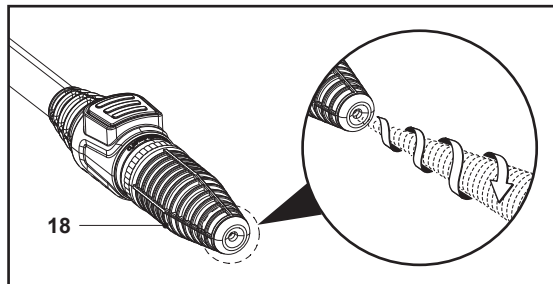

Fig. 12
The turbo nozzle (18) rotates as it sprays high-pressure jets of water for efficient washing (Fig. 12).